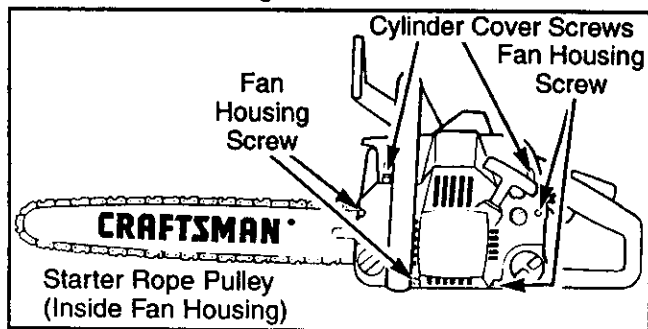

Figure 44
STARTER ROPE REPLACEMENT (Fig. 44, 45, 46, 47 & 48)
- Reinstall the 4 fan housing screws and tighten the 2 cylinder cover screws. Fig 44.